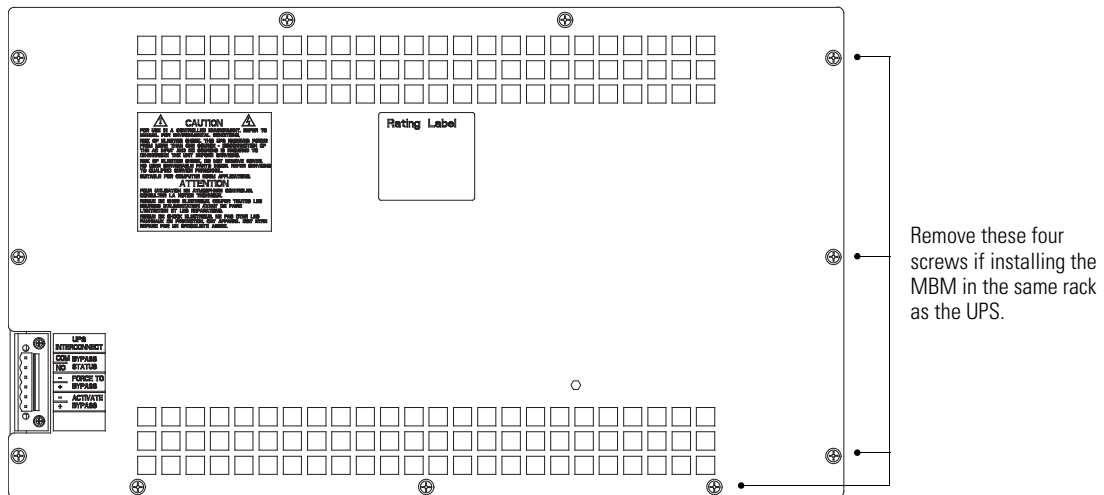

Figure 9. MBM Rear Panel
9. If installing the MBM in the same rack as the UPS, remove the three screws on the right and the bottom right screw securing the MBM rear panel (see Figure 9). The BladeUPS Bar blocks access to these screws when the MBM is installed in the rack.
3. Remove the screws securing the MBM rear panel (see Figure 9 on page 16) and remove the panel to gain access to the terminals. Retain the hardware for later use.